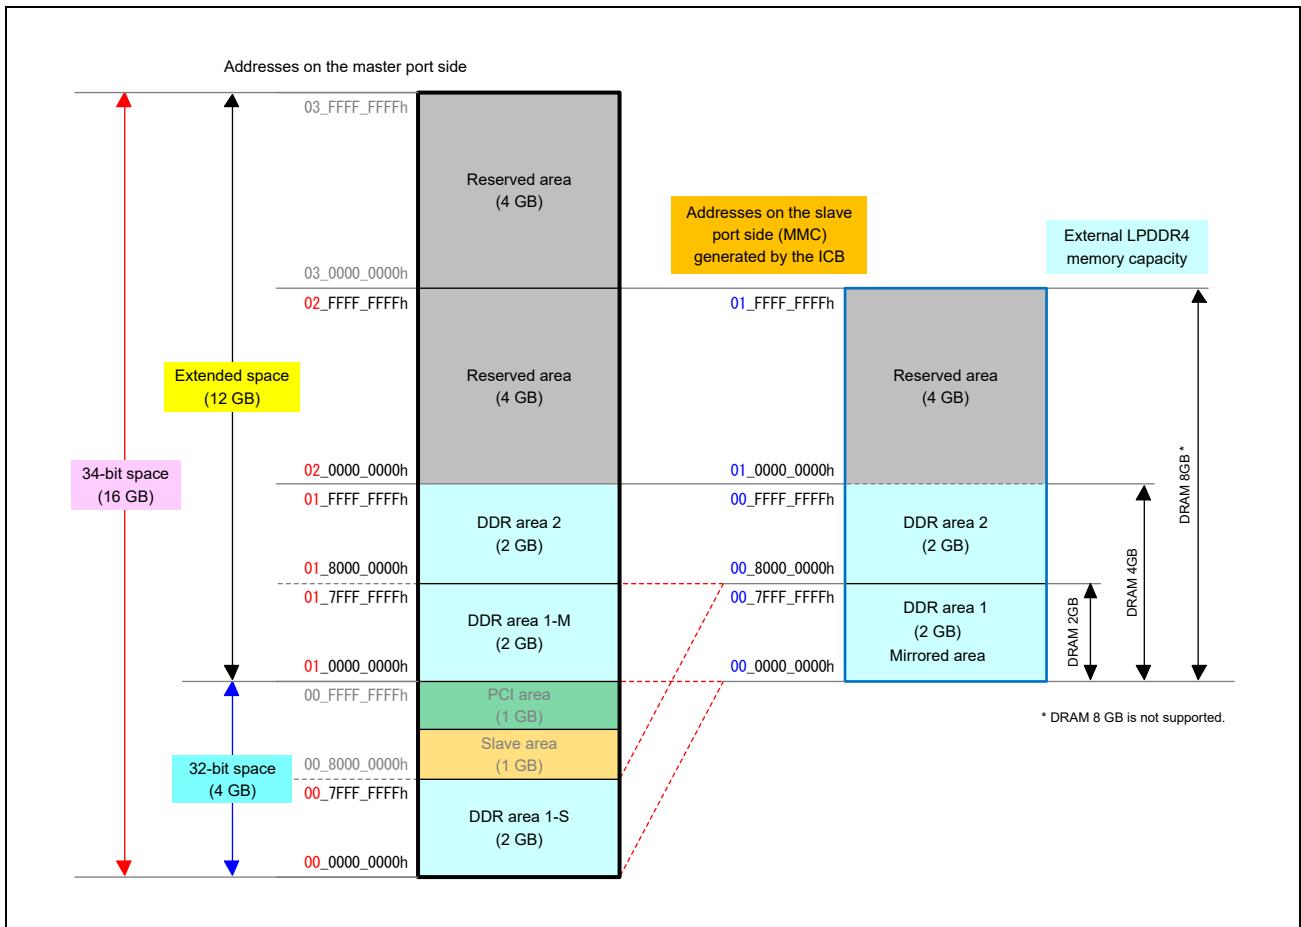

Figure 6.1-1 Overall Address Space
**Figure 6.1-1** shows the address map of this LSI, which has a 34-bit address space (16 GB).